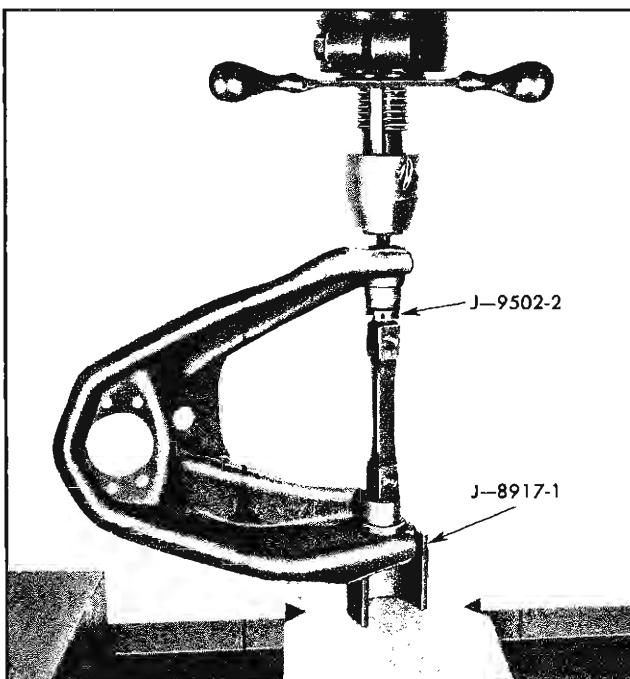

Fig. 3-23 Spacer J-9502-2 Installed
2. Support control arm, press on cross shaft and install spacer J-9502-2 (Fig. 3-23).